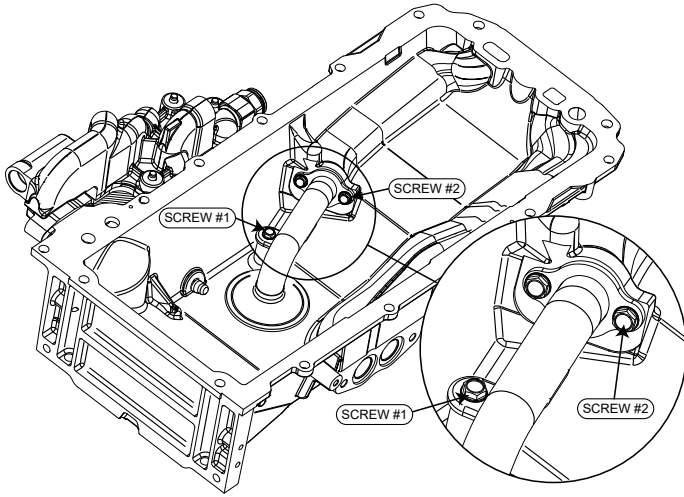

Figure 1 - Removing Screw #1 & Screw #2
8. Remove Screw #1 and Screw #2 from the oil pickup tube shown in Figure 1. Screw #2 will be used again.